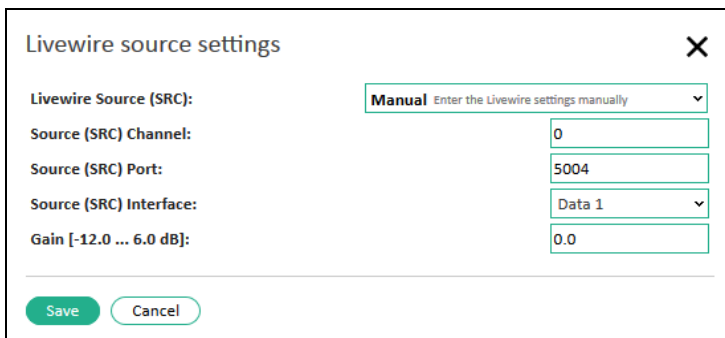

Figure 16: Input Source for coder - Livewire
- Enter the following data in the fields of the “Livewire source settings” (see Figure 16: Input Source for coder - Livewire on page 34):